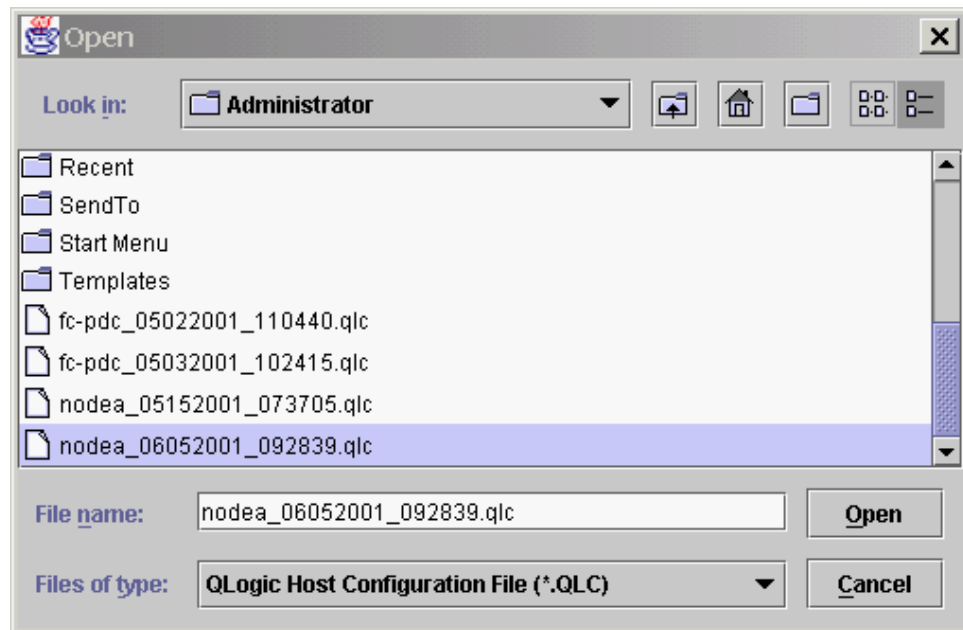

Figure 90. Open window
2. In the Open window, click the file you want to load, and then click **Open** (see Figure 90).